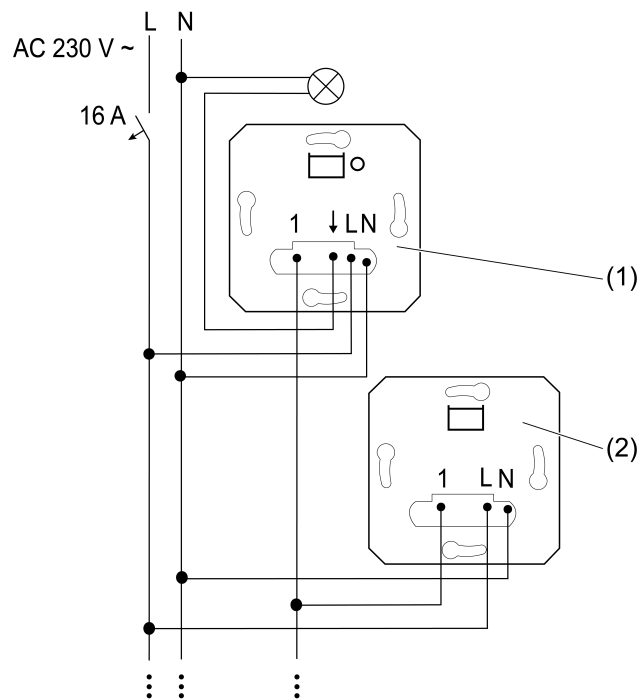
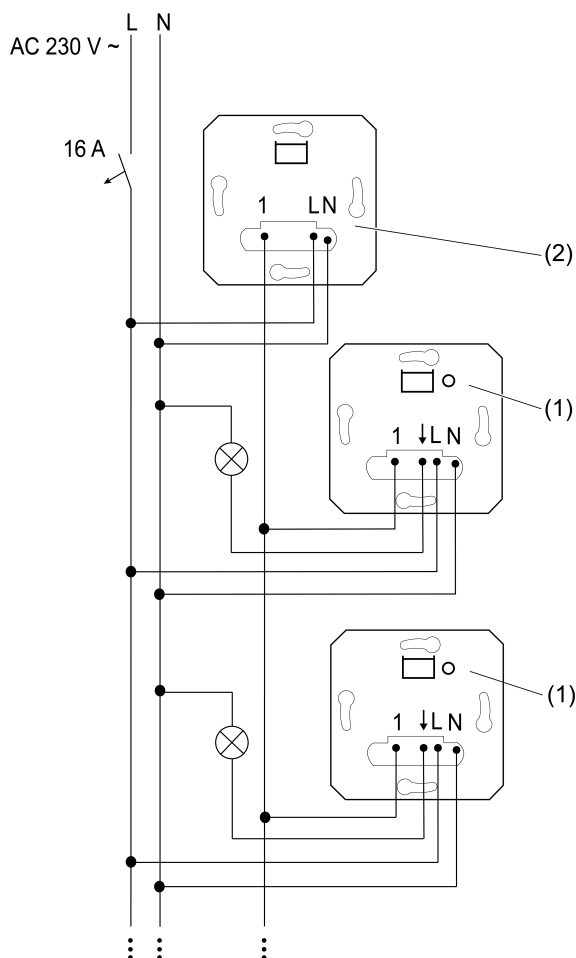
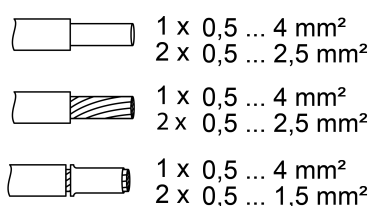

Figure 1: Connection diagram 3-wire extensions on a main device
Figure 2: Connection diagram for multiple main devices to a 3-wire extension for the central control
Figure 3: Clampable cable cross-sections
i Up to ten 3-wire extensions (2) can be connected to a main device (1) (Figure 1).
- i** Up to five identical or different main devices (1) can be controlled together by a 3-wire extension (2) (Figure 2).
- Connect extension (2) according to connection diagram (Figure 1) and (Figure 2). Note clampable cable cross-sections (Figure 3).